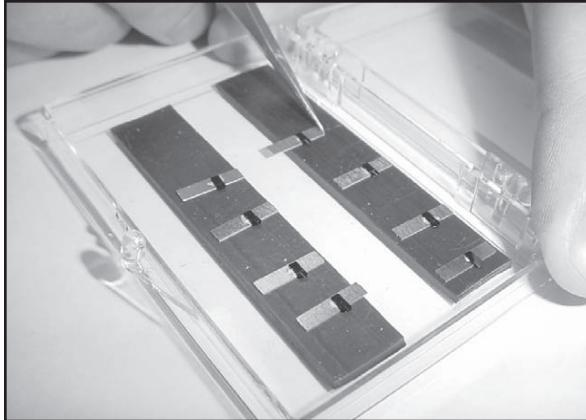

Figure 2.15: Nudge the Probe into Position
- Use tweezers to nudge the probe so that the metal plate extends over the edge of the magnetic strip in the probe box as shown in Figure 2.15.